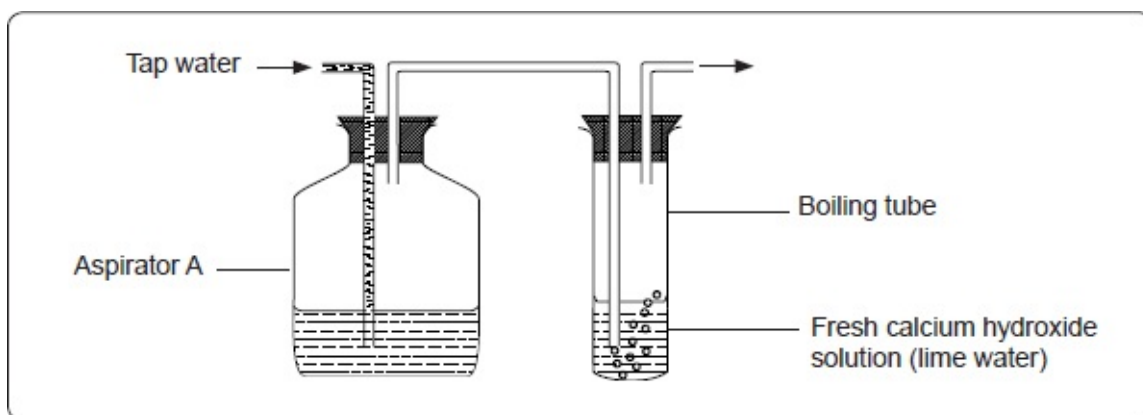

Fig 4.5: Demonstration of the presence of carbon (IV) oxide in air.
- (a) Place  $2\text{cm}^3$  of fresh calcium hydroxide solution (lime water) in a boiling tube. Pass water slowly from a tap into an aspirator as shown in figure 4.5. Record your observations.